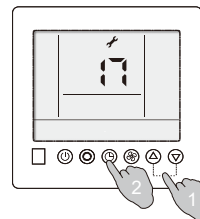

fig.5
2. Press Up or Down button to adjust to the customer-setting parameter code 17, press timer button to enter the state to set this parameter, then its function code will flicker. (See fig.5)